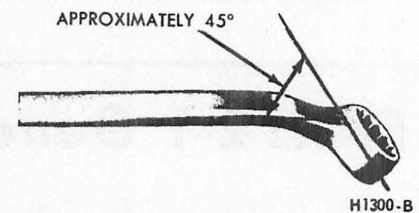

FIG. 1—Wrench for Bleeding Brake Hydraulic System
3. Position a 3/8 inch box wrench (Fig. 1) on the bleeder fitting on the right rear brake wheel cylinder. Attach a bleeder tube to the bleeder fitting. The end of the tube should fit snugly around the bleeder fitting.